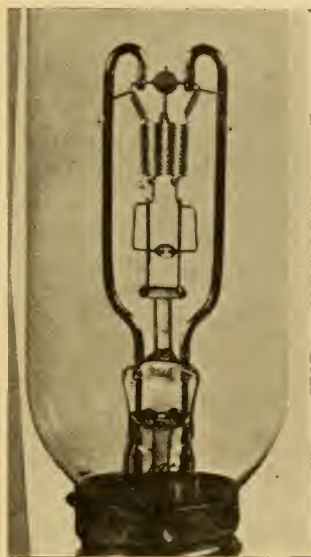

FIG. 99C
(176) There are several outstanding characteristics of Mazda projector lamps that serve to distinguish them from Mazdas for other illumination purposes. The coils of filament wire are arranged to secure the highest concentration of light, as in the "monoplane" type illustrated in Fig. 99C. By this arrangement most of the light output of the lamp is available to the projector optical system. It produces more screen illumination per watt of electrical power. (177) The additional coils of the "biplane" type, shown in Fig. 99D, doubles the current consumption (wattage), so that biplane lamps not only require increased space inside the bulb, but consume more power, produce more heat and therefore demand increased lamphouse ventilation. (178) Within defined limits the length of the filament wire determines the voltage that may be applied to a lamp and the diameter of cross-section of the wire determines its amperage capacity. The monoplane type is used in conjunction with the mirror shown in Fig. 99F.